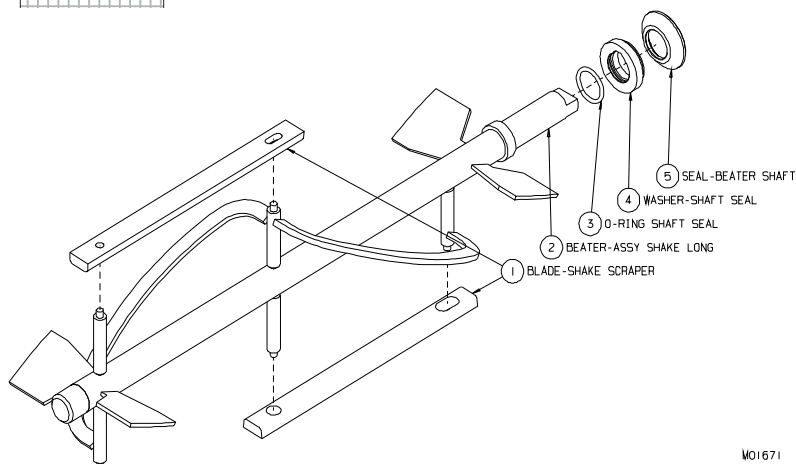

Figure 6-3 Beater Shaft Assembly
6. Remove the beater bushing (2) and beater shaft, figure 6-3 from the cylinder.